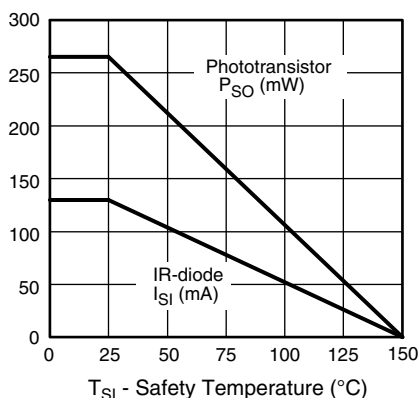

Fig. 2 - Derating Diagram
- According to DIN EN 60747-5-5 (VDE 0884) (see figure 2). This optocoupler is suitable for safe electrical isolation only within the safety ratings. Compliance with the safety ratings shall be ensured by means of suitable protective circuits.